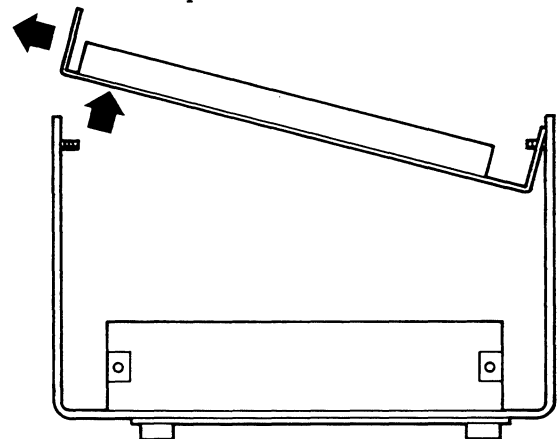

Figure 4-5
2. Remove the four nuts that fasten the circuit board mounting plate to the chassis. Tilt the front of the plate up, slide it forward and out of the chassis. Lay it to the side, (Figure 4-5). Inspect the hoses for cracking or general deterioration. If they are OK, reassemble the unit. Otherwise, continue with this procedure to replace all hoses.
2. Remove the four nuts that fasten the circuit board assembly in place. Lift the front of the assembly up an inch and a half, then slide it forward off its mounting studs and out of the unit. Lay it down next to the chassis, (Figure 4-5).